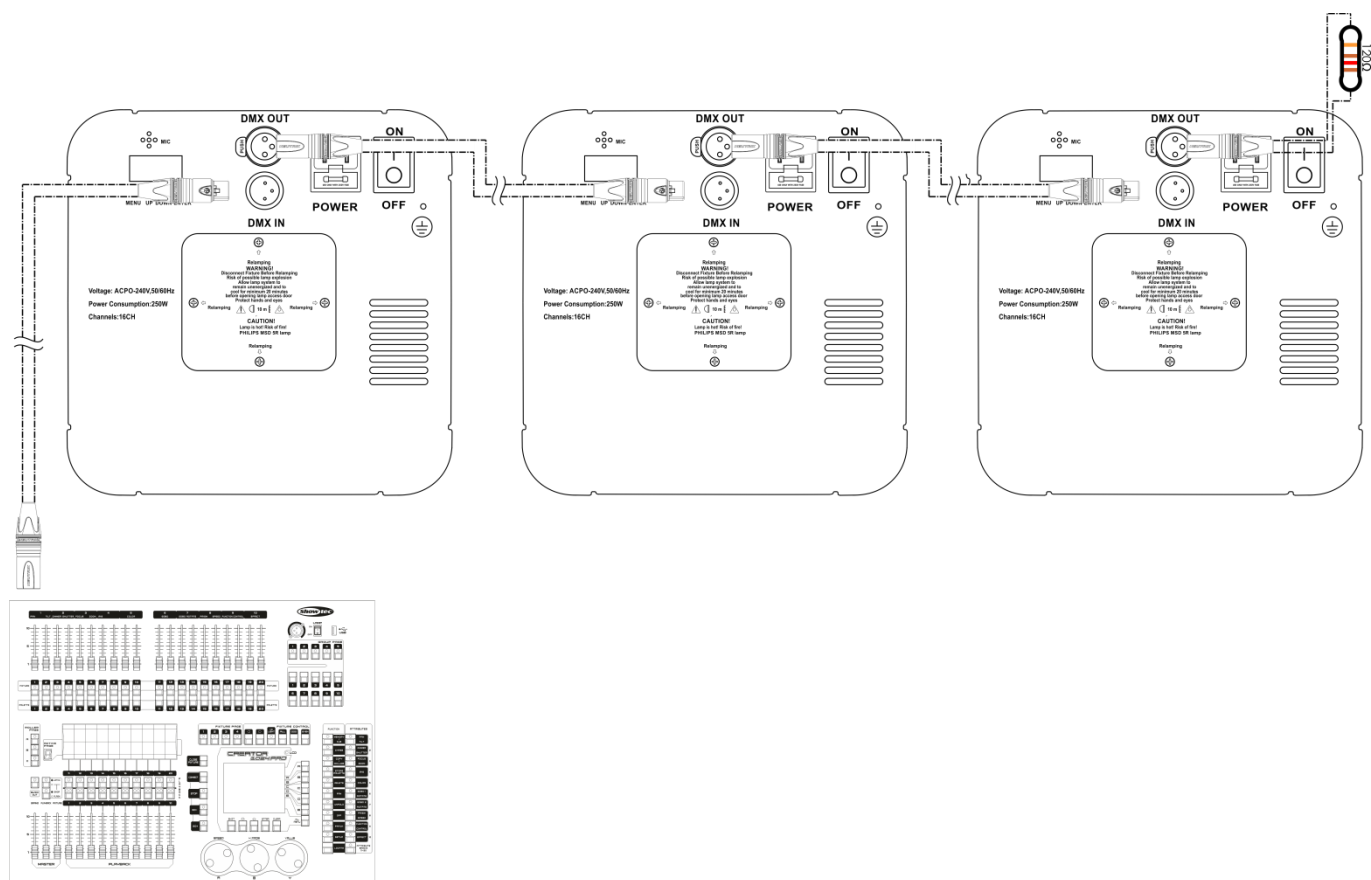

Fig. 05
- 05) Link the units as shown in (fig.05). Connect a DMX signal cable from the first unit's DMX "out" socket to the second unit's "in" socket. Repeat this process to link the second, third, and fourth units.